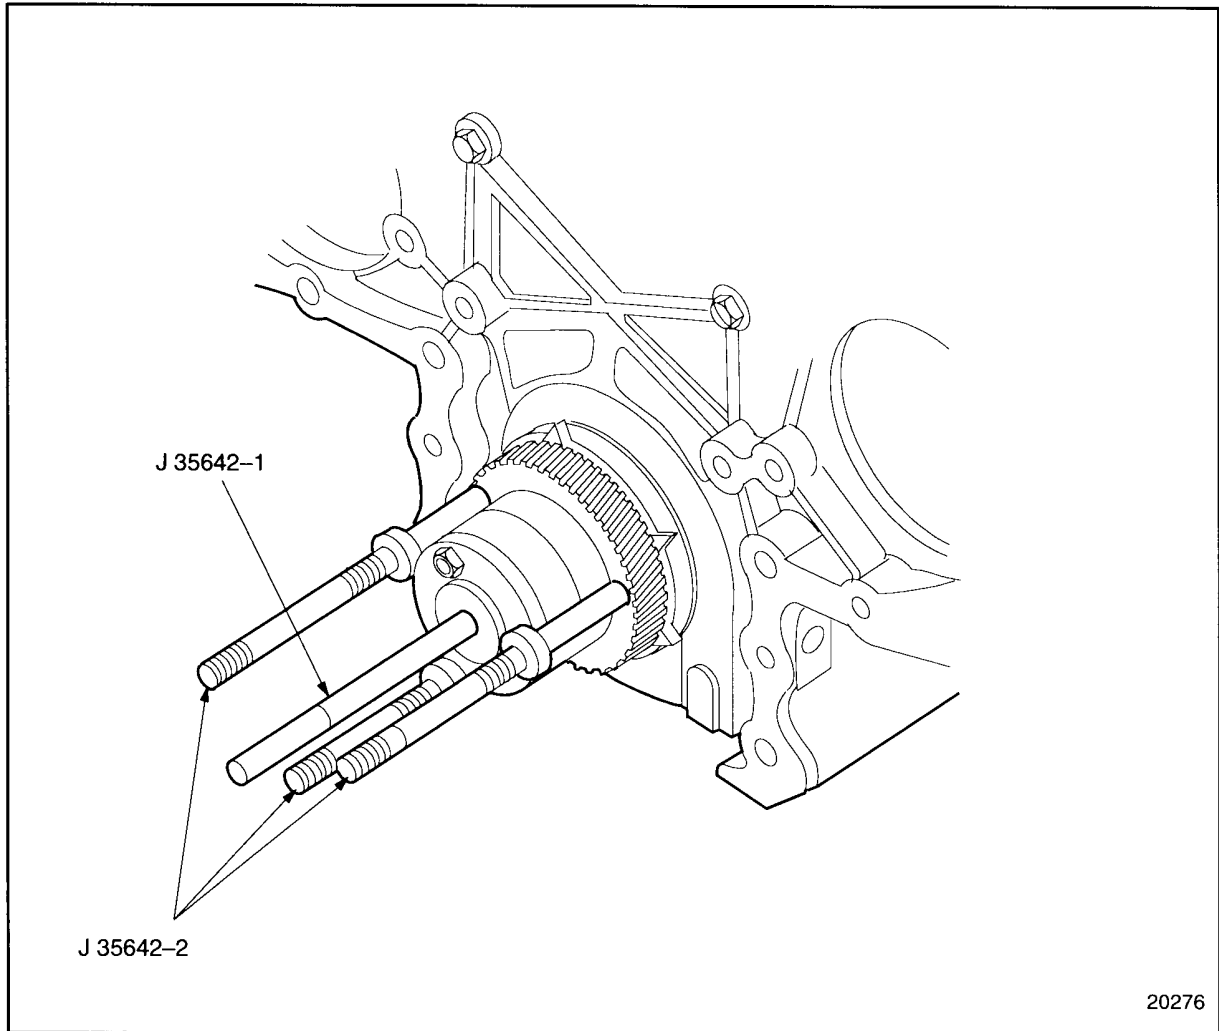

Figure 1-356 Installation of Crankshaft Timing Gear Removal Tools
9. Using two of the crankshaft pulley bolts, secure the base post, J 35642-1 part of J 35642 , part of tool kit J 35642, to the end of the crankshaft. Torque the bolts to 190-203 N·m (140-150 lb·ft). See Figure 1-356.